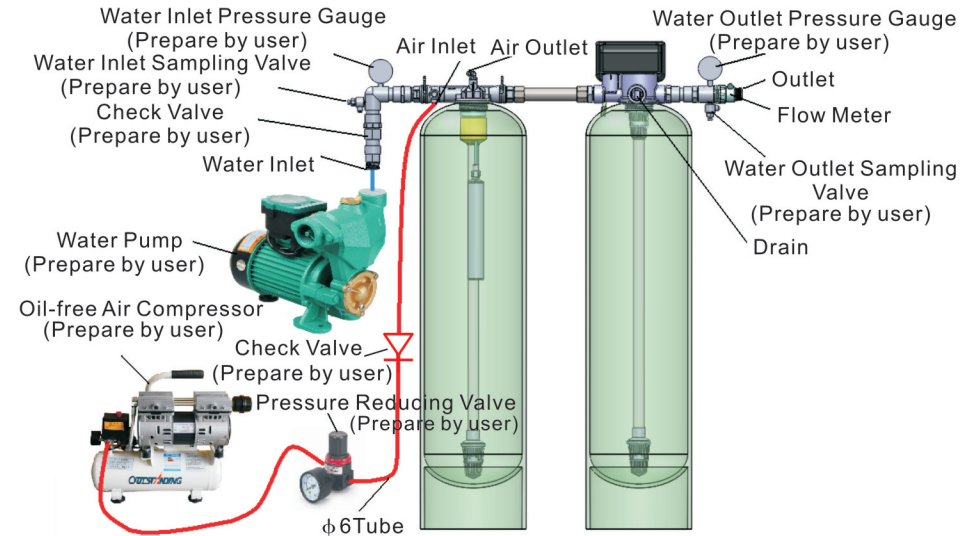

Figure 1
As Figure 1 shows (back view of system), connect aeration tank, filter tank as well as other accessories (For reference only):
B. Adjust the compressed air pressure reducing valve, it would be better to let inlet air pressure (check the pressure gauge as shown in Figure 1) be 0.05Mpa larger than inlet water pressure (check the water pressure gauge as shown in Figure 1).